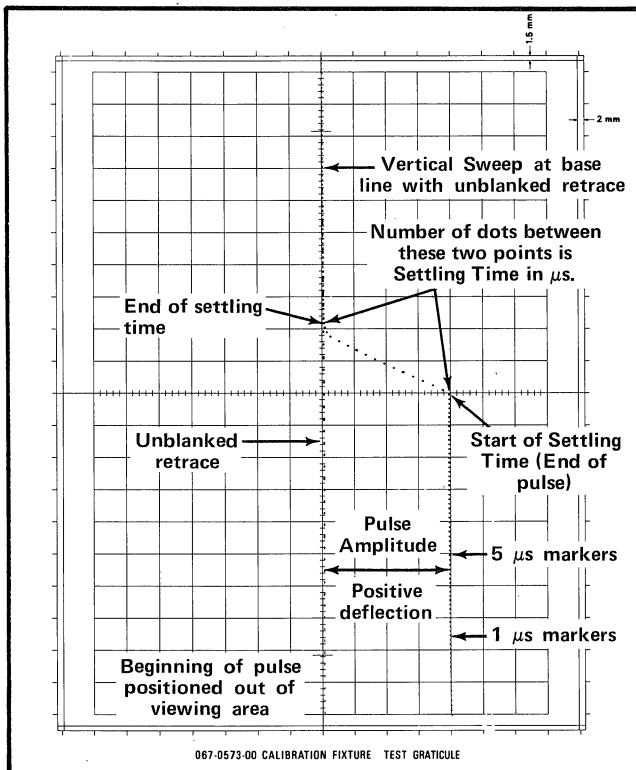

Fig. 5-22. Appearance of initial settling time display with various points identified.
g. Turn the INTENSITY control further clockwise to view the display at normal brightness. Set the Type 114 Variable Width and Variable Amplitude controls, and the Sweep Attenuator Amplitude control to obtain a display similar to the one shown in Fig. 5-22. Use the Type 611 Horizontal Position (R44), Horizontal Trace origin Selector switch SW202 and Vertical Position (R144) controls to position the last portion of the pulse trace as shown in Fig. 5-22. The 1 μ s and 5 μ s markers unblank the beam to produce the series of visible dots that make up the display and enable the settling time measurements to be made.